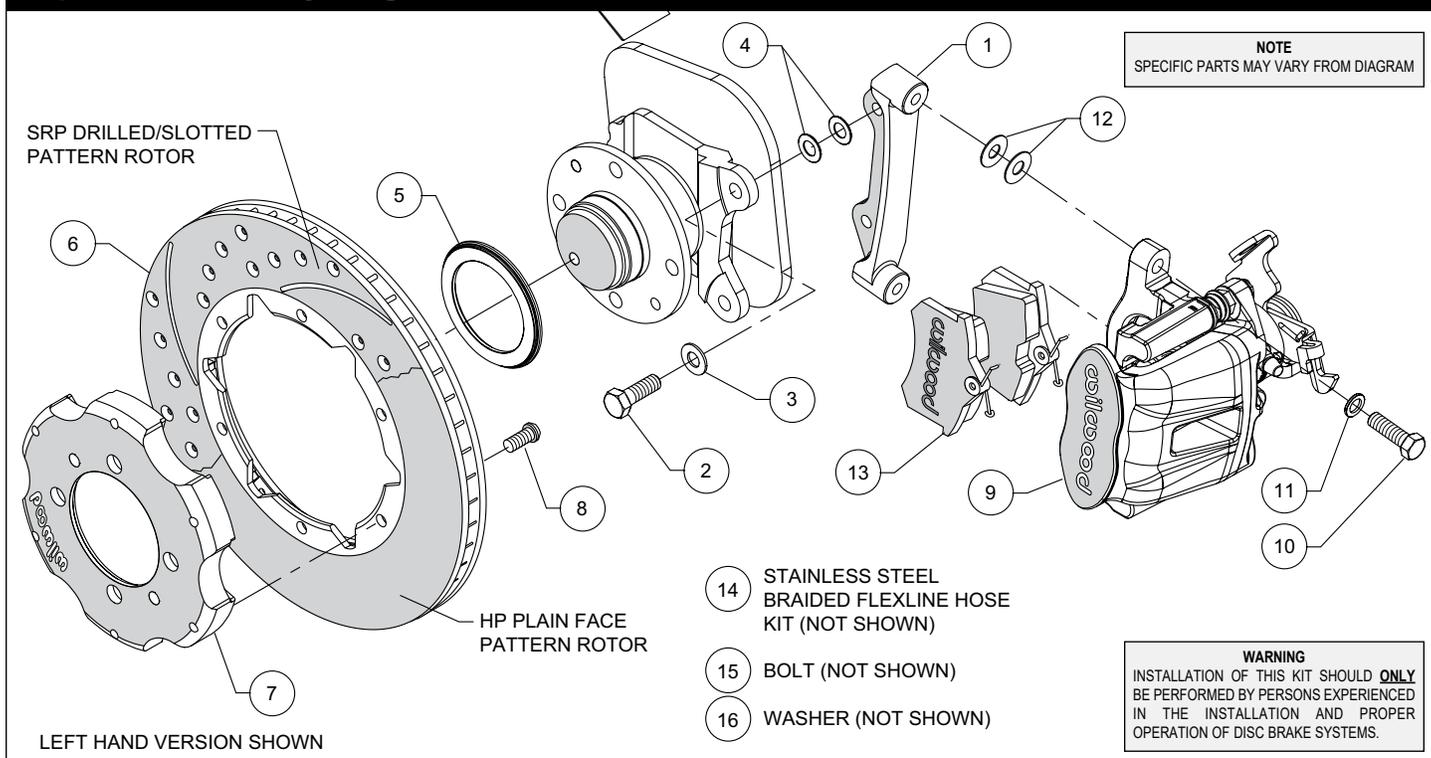

Figure 2. Typical Installation Configuration
•**NOTE:** Abarth model only. Remove the Original Equipment Manufacturer (OEM) sway bar bolt indicated in Photo 1. Replace with bolt (15) and washer (16), Photo 1. Apply red *Loctite*® 271 to the threads and torque to OEM specifications.
•The caliper mount bracket (1) should initially be installed with clean, dry threads on the mounting bolts. Orient the bracket as shown in Figure 2, and Photo 2. Install using mounting bolts (2) and washers (3). Initially place two .030" thick shims (4) on each bolt between the bracket and upright, Figure 2. Temporarily tighten the mounting bolts. **NOTE:** The bracket must fit squarely against the mount bosses on the upright. Inspect for interference from casting irregularities, machining ridges, burrs, etc. Later, after the caliper alignment has been checked, the mount bolts will be secured using red *Loctite*® 271.
•Orient the rotor (6) and the hat (7) as shown in Figure 2 and Photo 3. Attach rotor to hat using bolts (8). Using an alternating sequence, apply red *Loctite*® 271 to the threads, and torque to 25 ft-lb.
•Slide the rotor registration adapter (5) onto the axle register on the axle hub with the smaller O.D. facing outward, Photo 4.
•Install the brake pads (13) into the caliper (9) from the bottom with the friction material facing the rotor until the "v" spring clip snaps into place against the anvil, as shown in Figure 2 and Photo 6. They should install easily without interference.
•Mount the caliper (9) onto the mounting bracket (1) using bolts (10) and washers (11), as shown in Figure 2 and Photo 7. Initially place two .035" thick shims (12) on each bolt between the caliper and the bracket. Temporarily tighten the mounting bolts and view the rotor (6) from the end of the caliper. The rotor should be centered in the caliper, Photo 8. If not, adjust by adding or subtracting .030" shims (4) between the caliper mounting bracket and the upright to center the caliper on the rotor. Always use the same amount of shims on each of the two mounting bolts. Once the caliper alignment and pad centering are correct, remove the bracket mounting bolts (2) one at a time, apply red *Loctite*® 271 to bolt threads, and torque to 30 ft-lb.
•Check that the top of the brake pad (13) is flush with the outside diameter of the rotor (6), Photo 9. If not, adjust by adding or subtracting shims (12) between the caliper and the bracket. After the caliper pad height is set, apply red *Loctite*® 271 to bolt threads (10), and torque to 35 ft-lb.